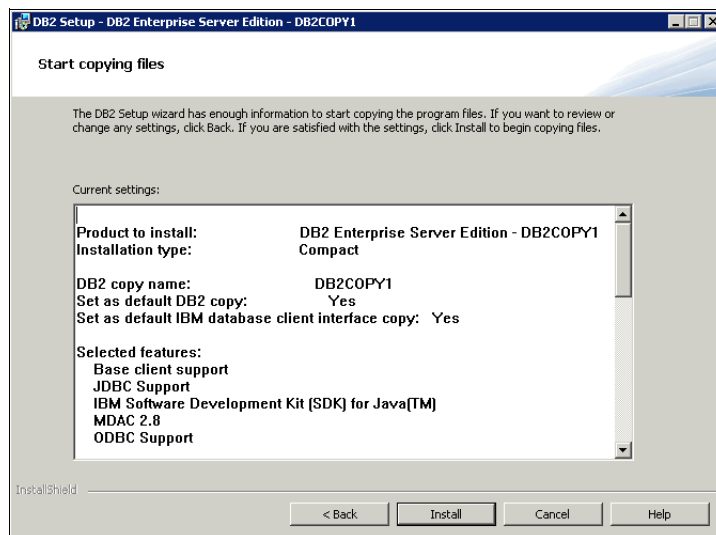

Figure 12-16 Summary window
15. Figure 12-16 shows the summary window of what will be installed, based on your input. Review the settings and click **Finish** to continue.